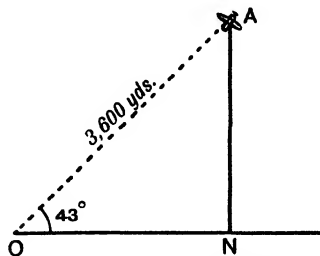

FIG. 101. DIAGRAM FOR EXAMPLE 3
3. A searchlight at O catches an enemy aeroplane in its beam when the beam is inclined at  $43^\circ$  to the horizontal. At the same time the 'plane's distance is found, by a rangefinder, to be 3,600 yd. from O. If N is the point immediately under the 'plane when it was sighted, find the distance of N from O, Fig. 101.